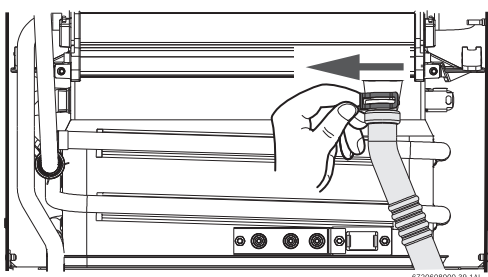

Fig. 31 Disconnect drain tube
- Remove the clip and disconnect the drain tube, see Fig. 31.